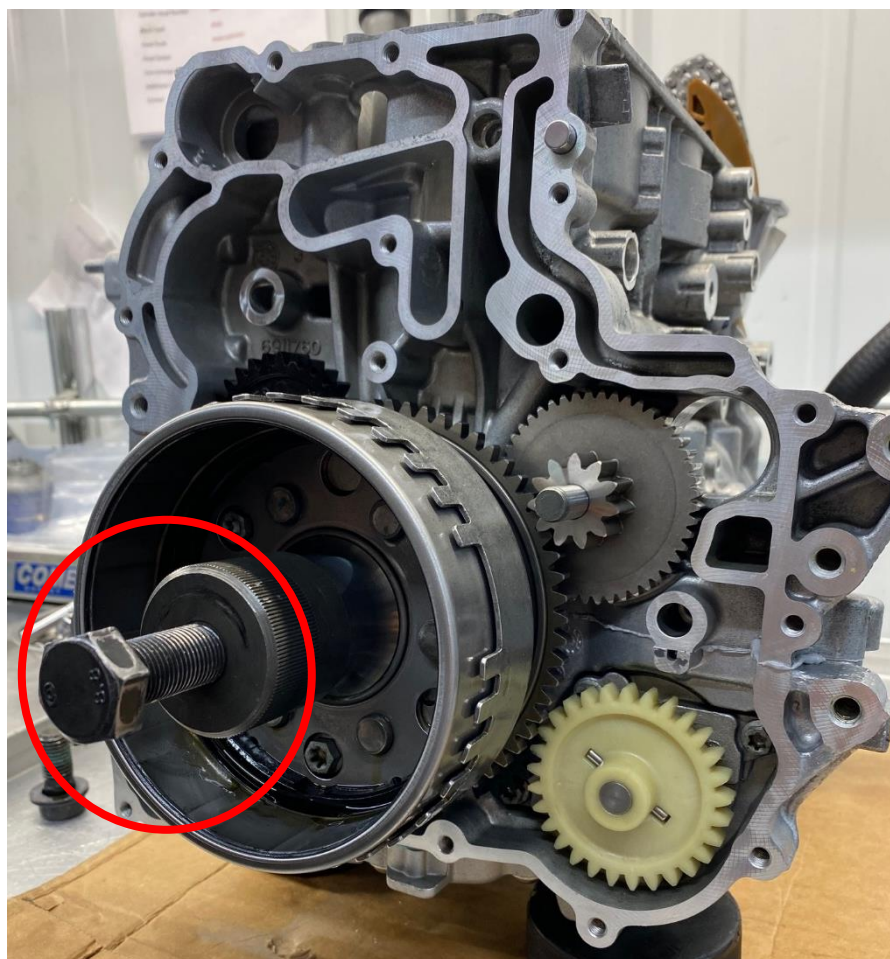

Figure 3
Step 3: Remove flywheel from the crank shaft, using a Flywheel puller and shaft protector. (Figure 3)